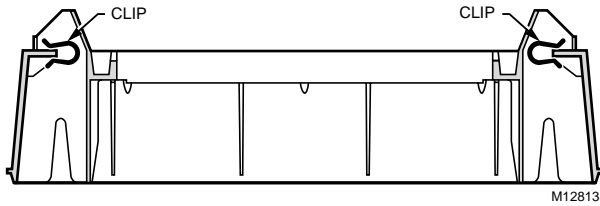

Fig. 5. Position securing clips.
6. Position the securing clips as shown in Fig. 5. Do not completely seat them.